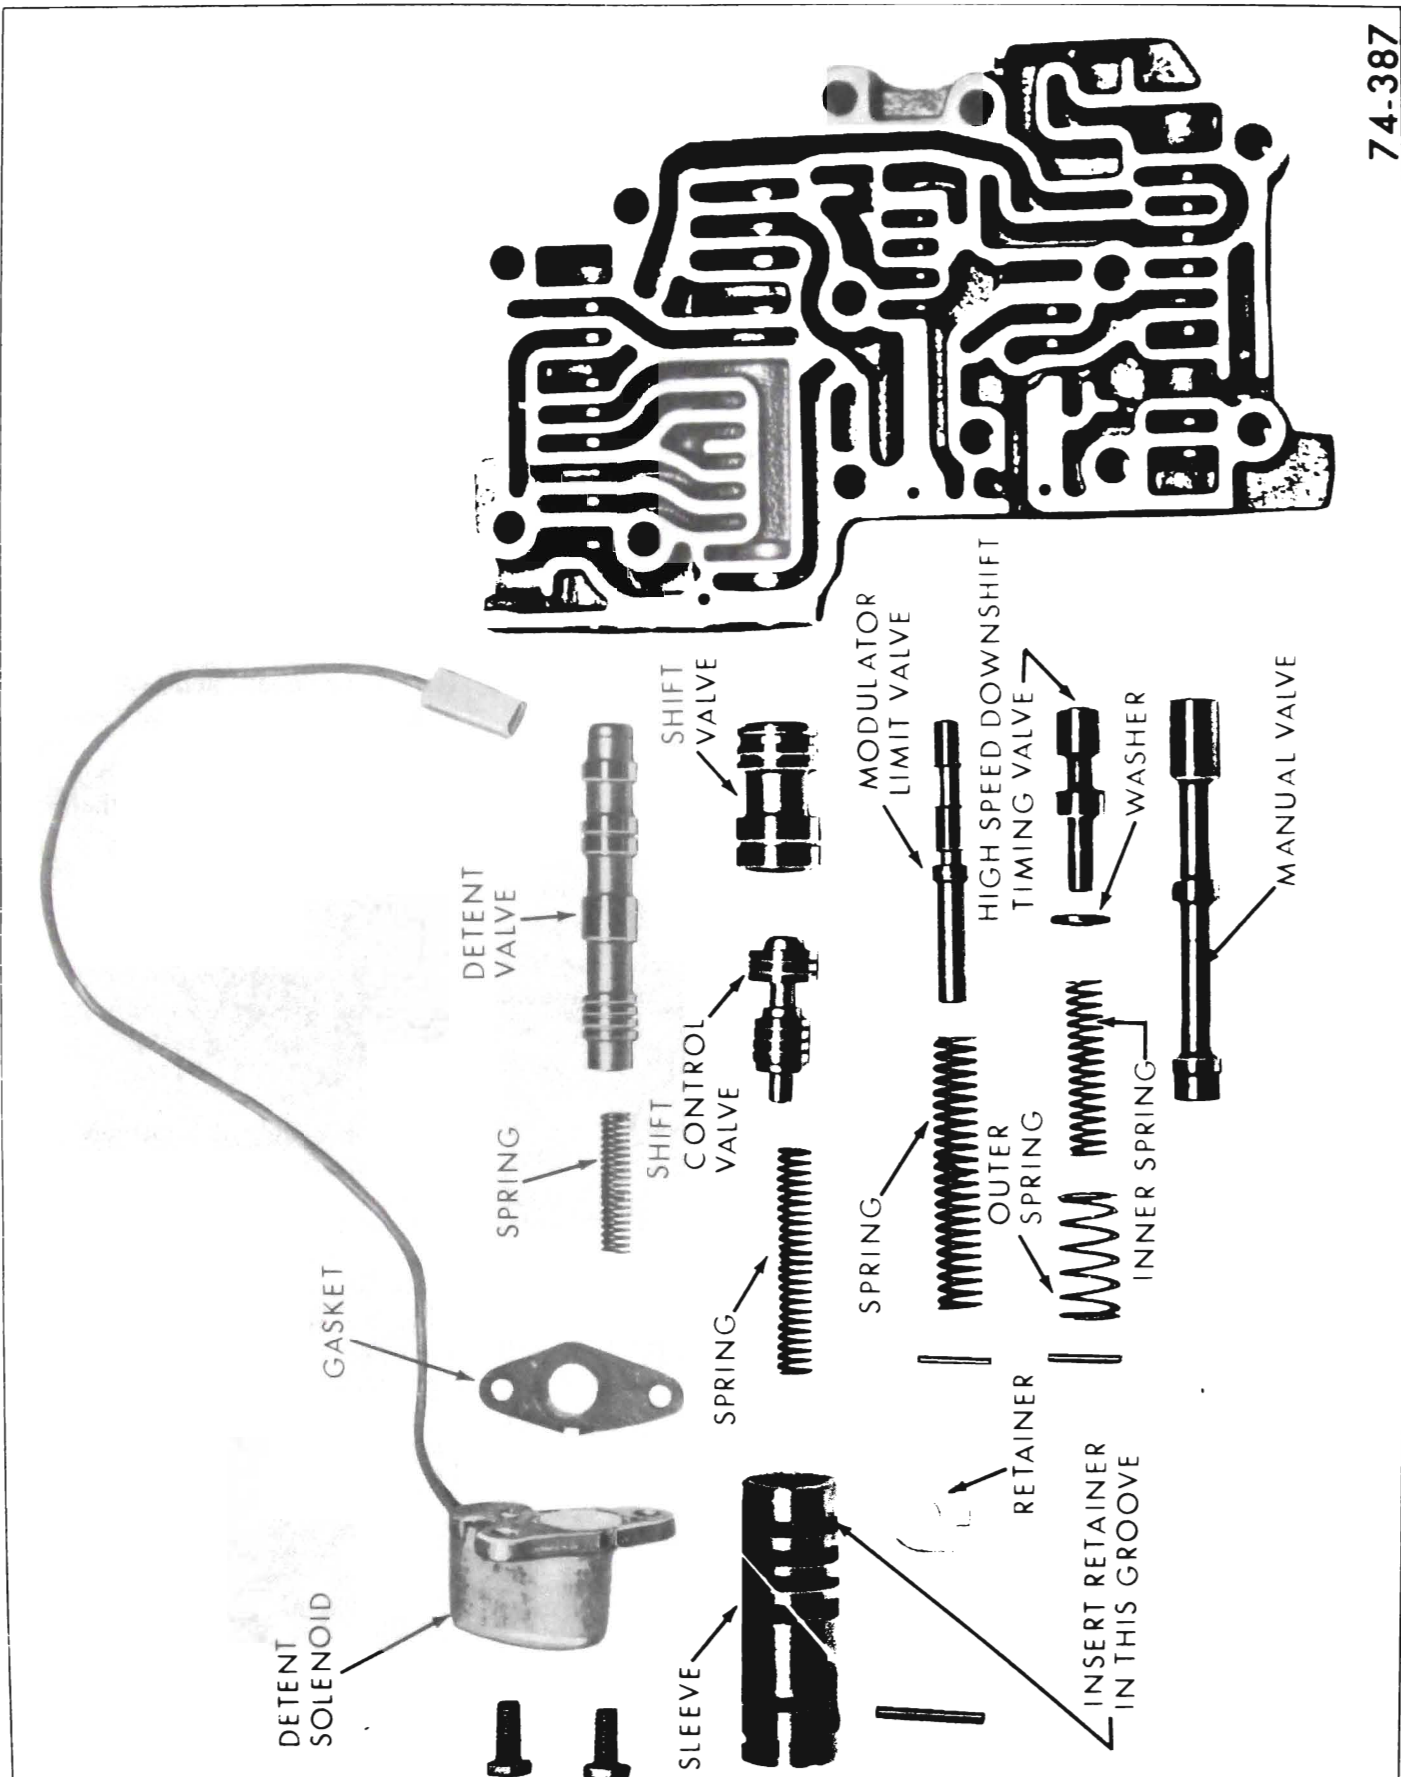

Figure 74-169
a. Disassembly (Refer to Figure 74-169)
c. Reassembly of Valve Body (Refer to Figure 74-169)